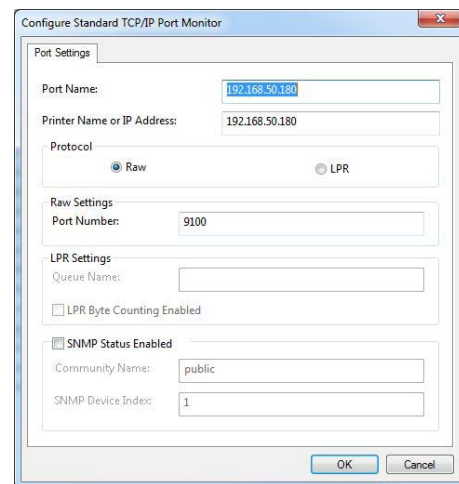

Figure 44: Custom settings of printer port
- Set the "Port number" to the same value as set in the printer. Then click on "OK". Make sure the Protocol is set to "RAW" (See Figure 44. This figure only shows a sample IP address. Make sure to enter the IP address used in your installation).